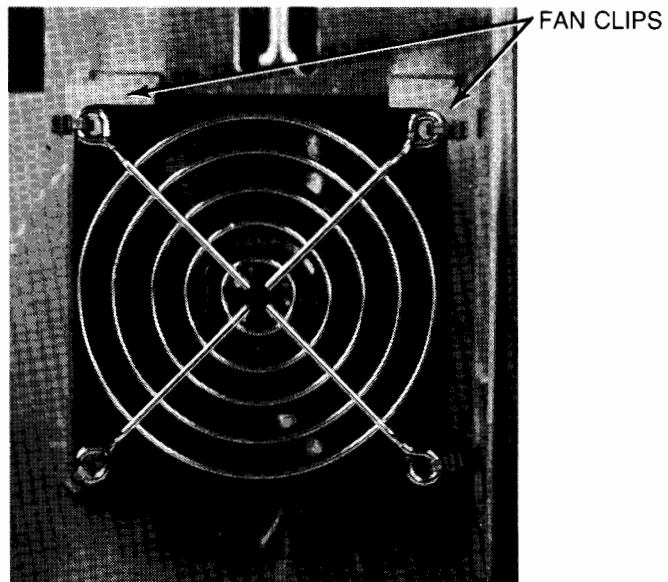

Figure 4-96. Removing Fan
4. Remove both fan clips (Figure 4-96). To release clip, press in on top and bottom of clip from outside while pressing down on top tab from inside.